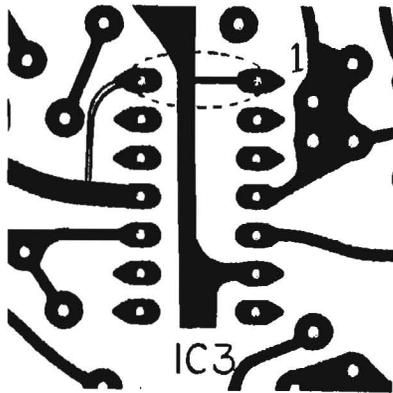

Fig. 4
- 6. Using Mylar sleeving over cap leads; solder .02uF cap to traces from IC3 pins 6 and 11. See Figure 4, below.